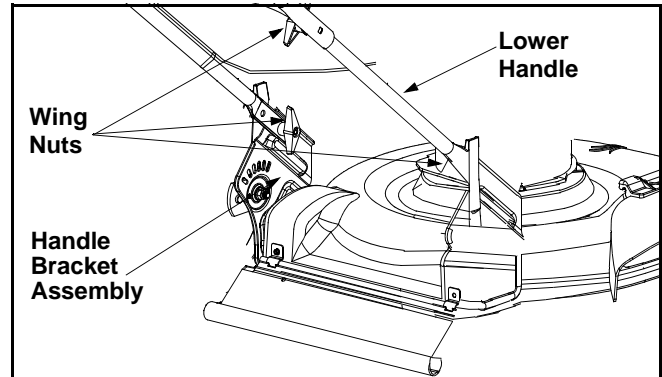

Figure 3
- To secure the upper and lower handle, tighten the wing nuts near the top of lower handle (carriage bolts must be seated properly into the handle). Tighten the wing nuts at the end of the lower handle to secure the handle to handle bracket assemblies. See Figure 3.